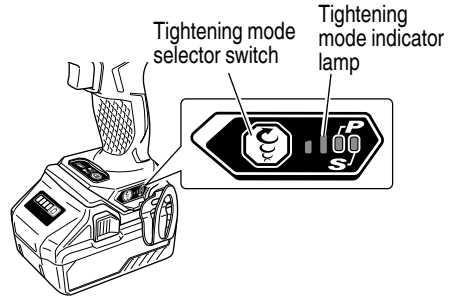

Fig. 15
9. Tightening mode selector function (Fig. 15)